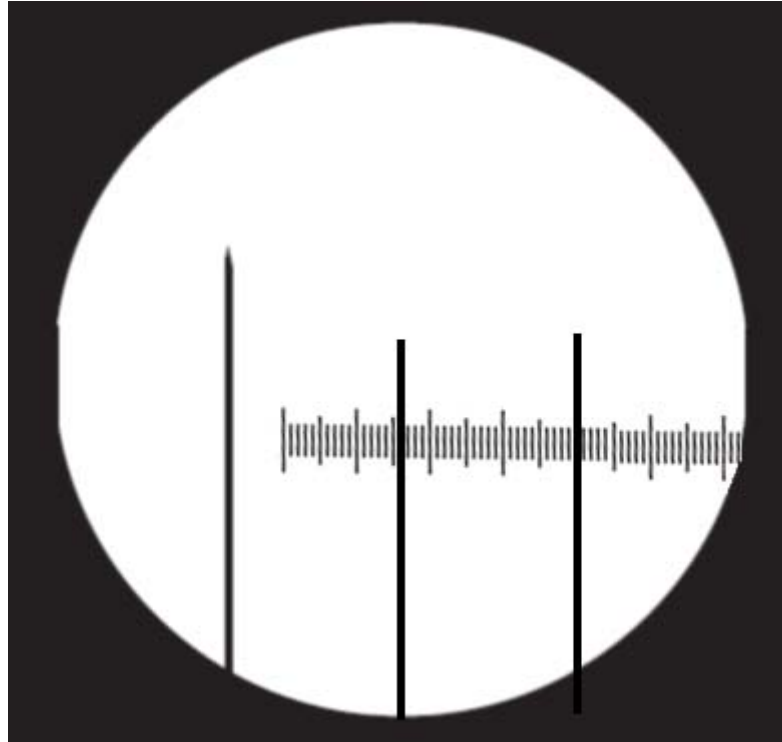

Fig. 2.1
- (c) Fig. 2.1 shows a diagram of a stage micrometer scale that is being used to calibrate an eyepiece graticule.
- (i) Using this stage micrometer, where one division is 0.1 mm, calculate the actual length of one eyepiece graticule division, using Fig. 2.1.
A student, using a prepared slide from which this photomicrograph was taken, measured the total length of the seven chloroplasts, labelled in **cell Z** in Fig 2.1.